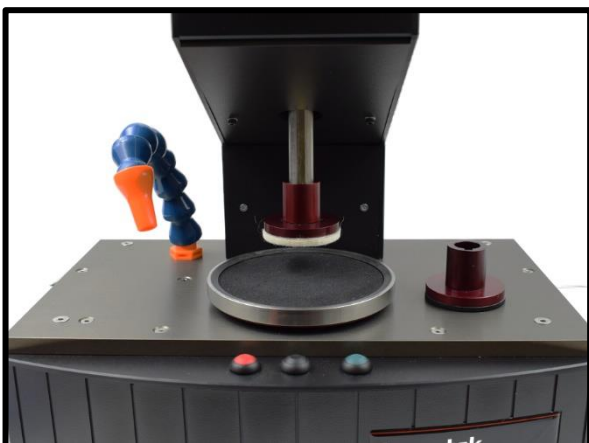

Fig 6 – Replacement head attached
- Replace with the required version (fig 6).